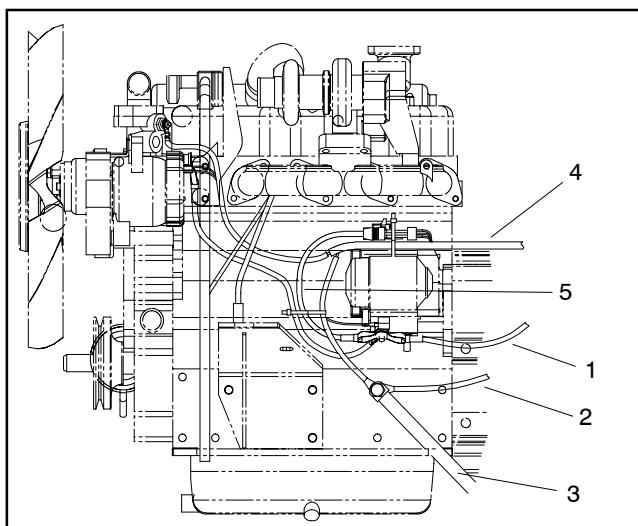

Figure 15
- D. Battery, frame, and wire harness ground at the engine block (Fig. 15).
- E. The electric starter (Fig. 15).
- D. Battery, frame, and wire harness ground to the engine block (Fig. 15).